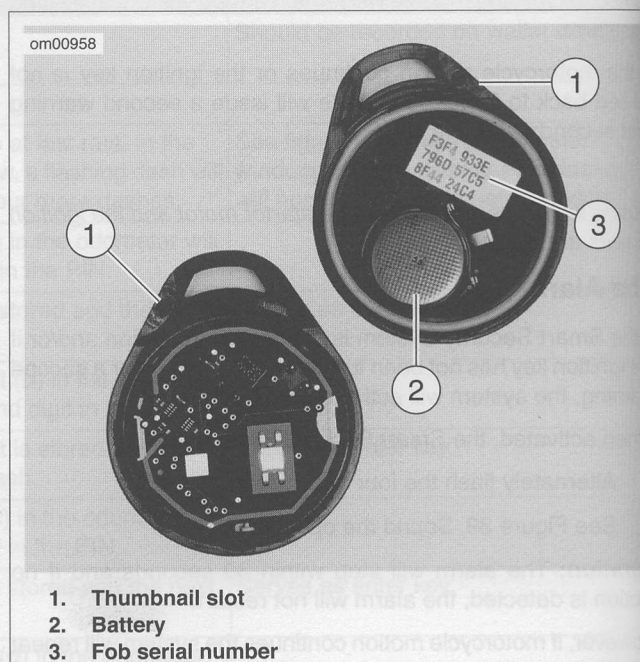

Figure 40. Hands-Free Fob Battery
1. See Figure 40. Slowly turn a thin blade in the thumbnail slot (1) on the side of the fob to separate the two halves.
2. Remove the battery (2) and discard.